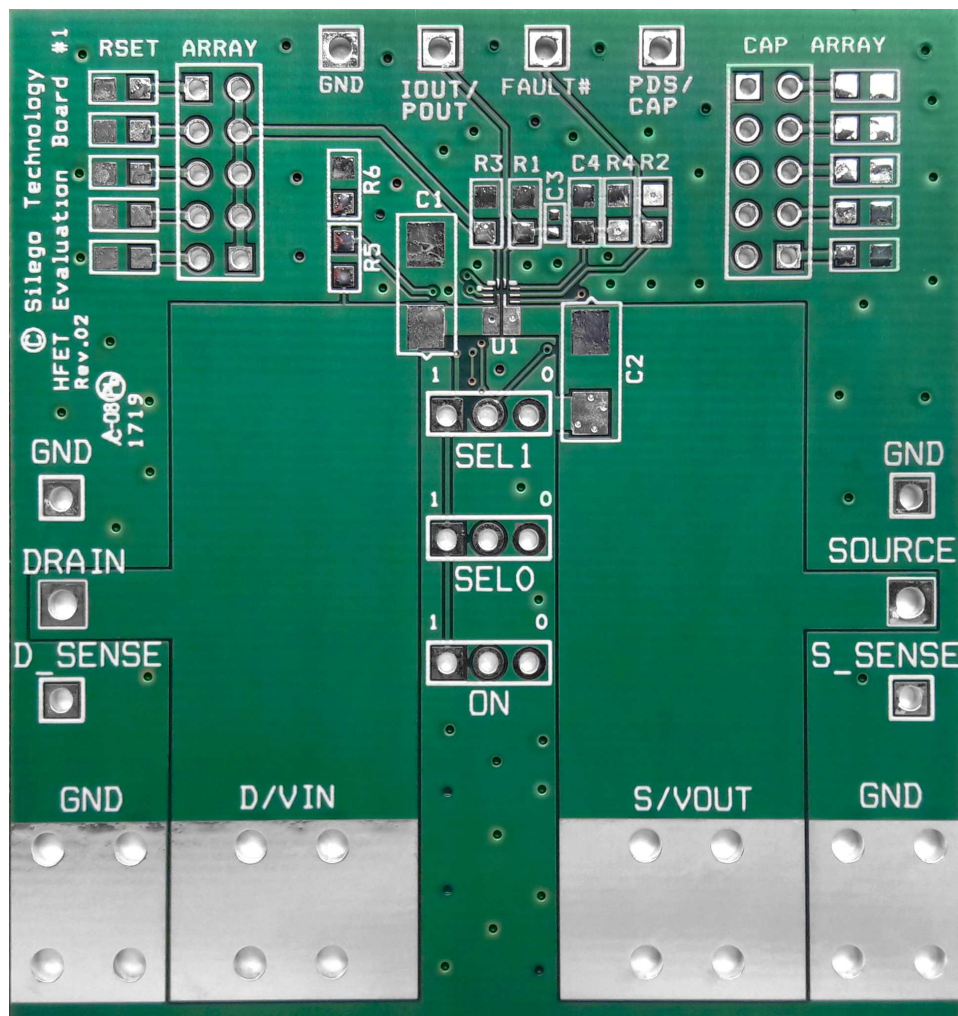

Figure 24. SLG59H1128V Evaluation Board
1. Since the VIN and VOUT pins dissipate most of the heat generated during high-load current operation, it is highly recommended to make power traces as short, direct, and wide as possible. A good practice is to make power traces with absolute minimum widths of 15 mils (0.381 mm) per Ampere. A representative layout, shown in Figure 24, illustrates proper techniques for heat to transfer as efficiently as possible out of the device;
A High Voltage GreenFET Evaluation Board for SLG59H1128V is designed according to the statements above and is illustrated on Figure 24. Please note that evaluation board has D_Sense and S_Sense pads. They cannot carry high currents and dedicated only for RDS_{ON} evaluation.